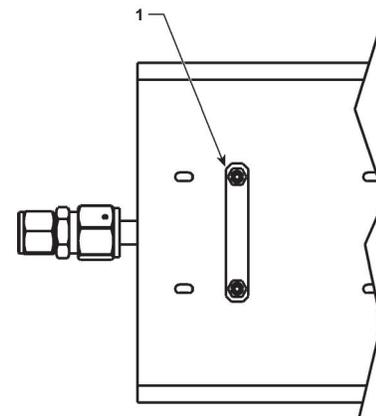

Figure 2. molstic-S Nut Plate
- 1 Place a new VCR gasket (P/N 102923) securely against the sealing surface inside the female VCR swivel nut at the molstic-S inlet (5).
- 4 Place the flat side of the 60 mm nut plate under the molstic-S platform (Fig. 2,1). Align it with the holes in the platform and the regulator bracket. Hold it in place.